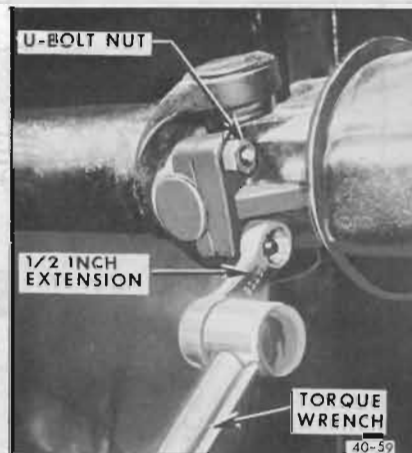

Figure 40-49—Using Extension to Torque U-Bolt Nuts
3. Install U-bolts, lock washers and nuts; torque nuts evenly to 12 lb. ft. See Figure 40-49.